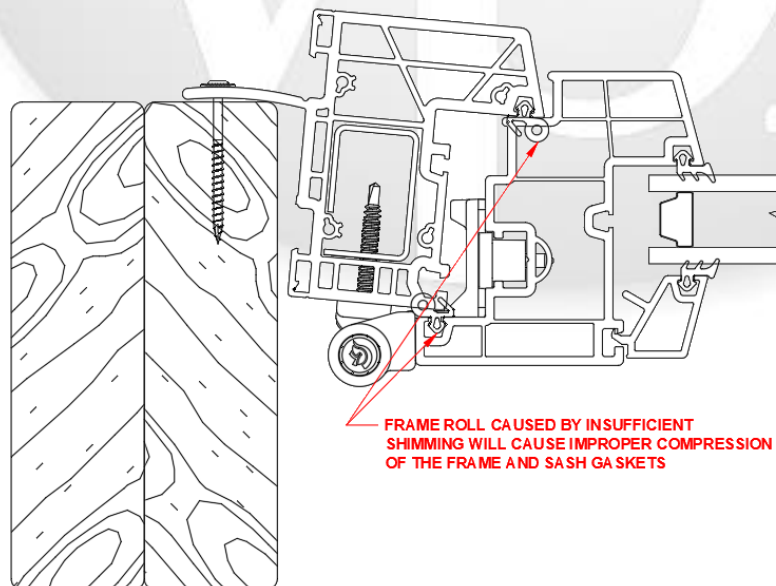

Figure 12: Jamb View Nail Flange Window with Frame Roll
- I. Below is an example of a nail flange window that is shimmed incorrectly and is experiencing frame roll. (See Figure 12)